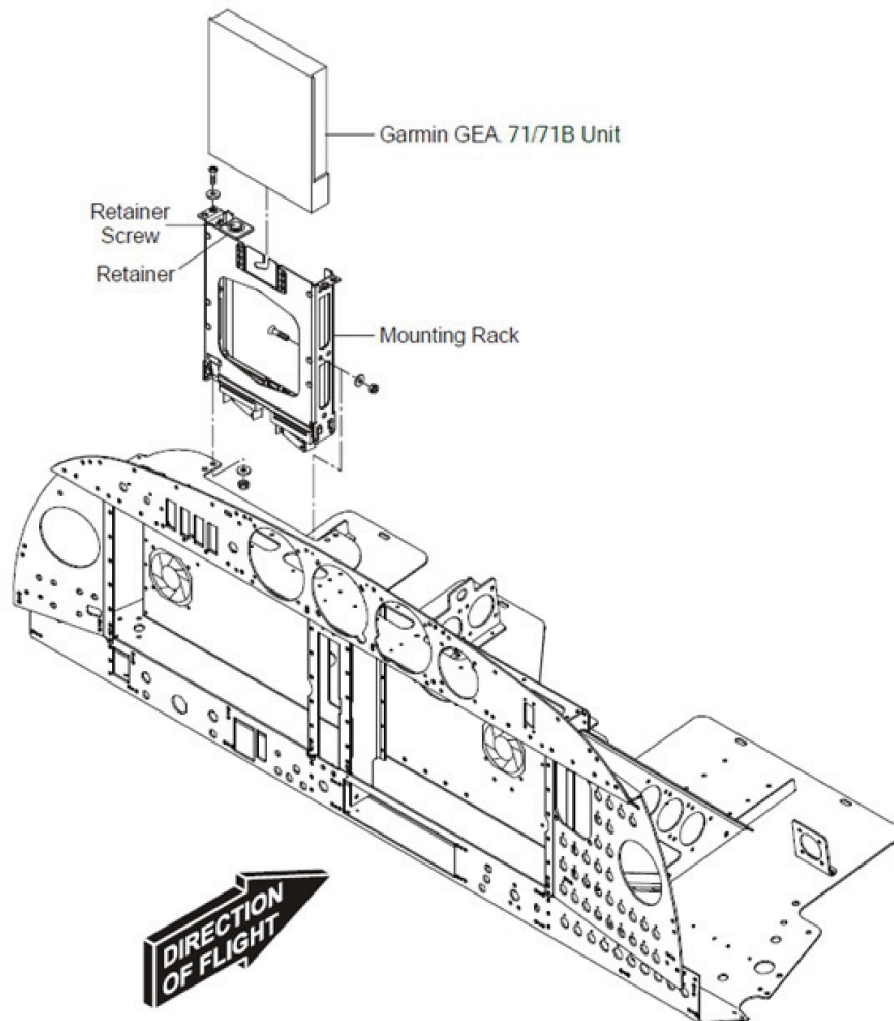

Figure 6 : GEA 71 / 71B Processor Installation
The G1000 bus voltage ("volt1") is measured by the **GEA 71S** (Engine/Airframe unit), which is mounted on the **instrument panel shelf** (AMM 31-40-00, p.985, Figure 6):
**GEA 71S Installation Location (AMM 31-40-00, Figure 6):**